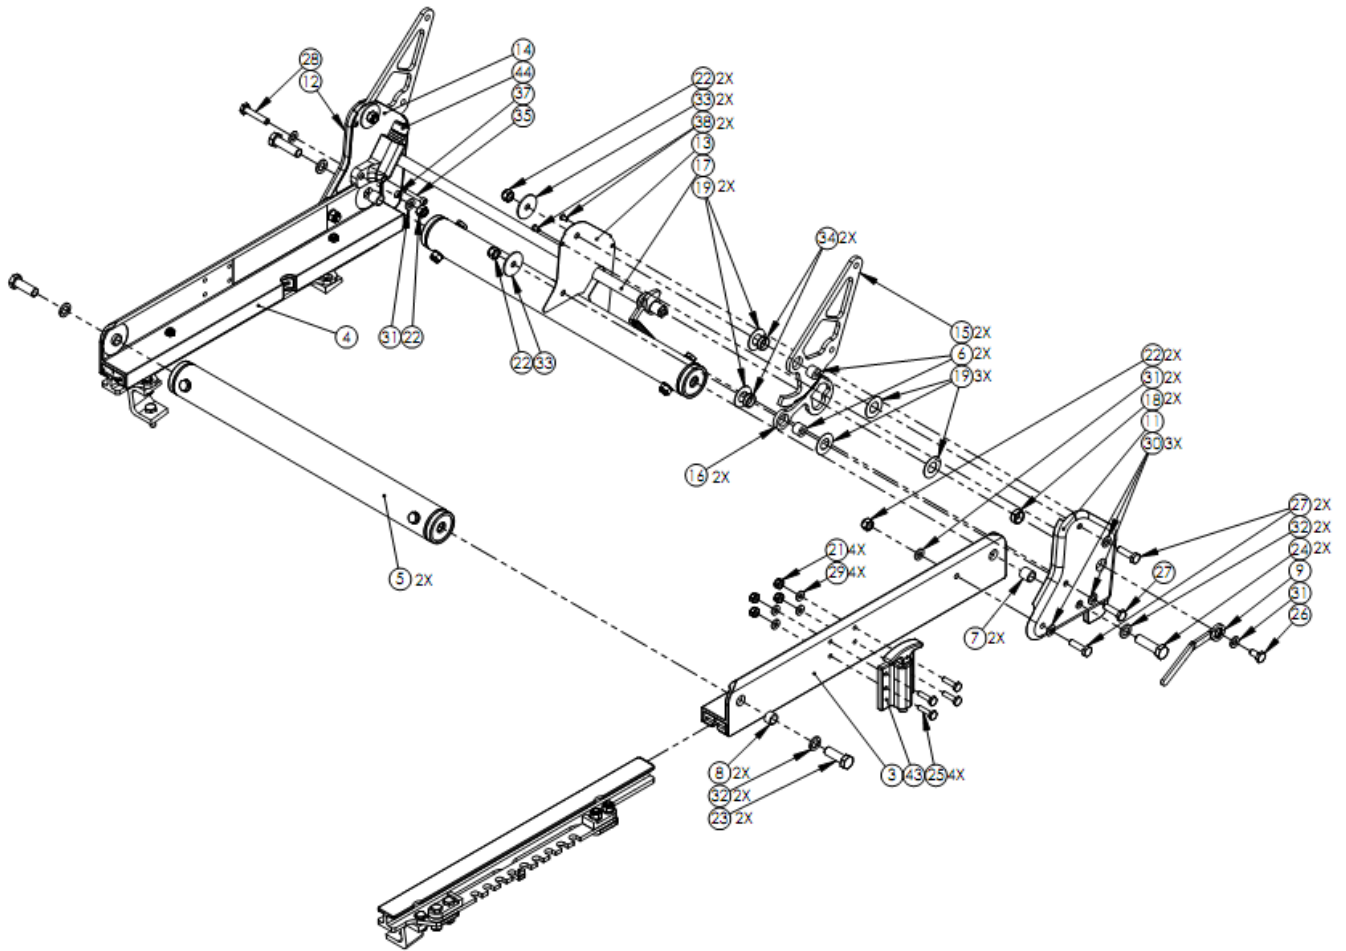

Figure 22 Seat Base Assembly
8. 6S-0001 Seat Base Assembly (Figures Figure 21 & Figure 22)